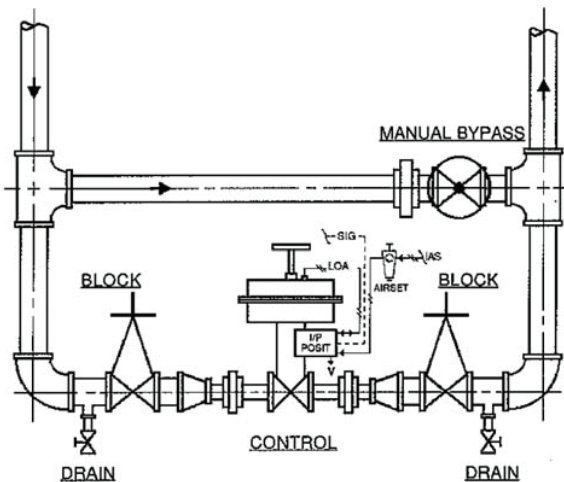

Figure 1: System Pipeline Drains
1. It is recommended that the control valve unit be installed with a double-block and bypass as indicated in Figure 1. This arrangement is recommended especially where maintenance will be done on the valve body while still installed in the pipeline.